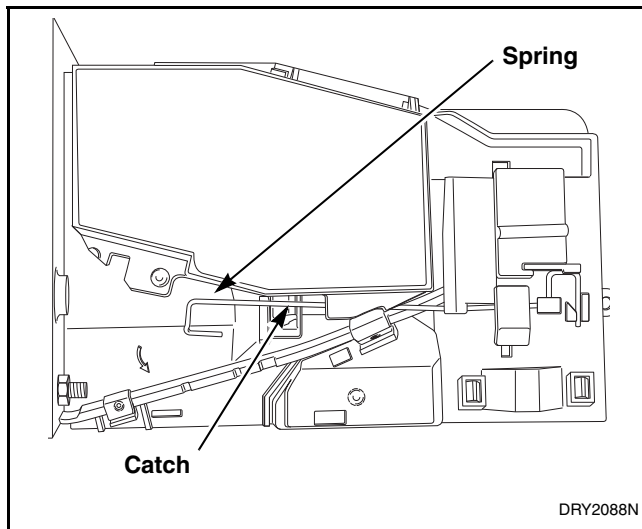

Figure 85
**Coin Drops with Old-Style Spring (refer to Figure 85):**
- Move spring downward until cover catch is free. Refer to Figure 85.